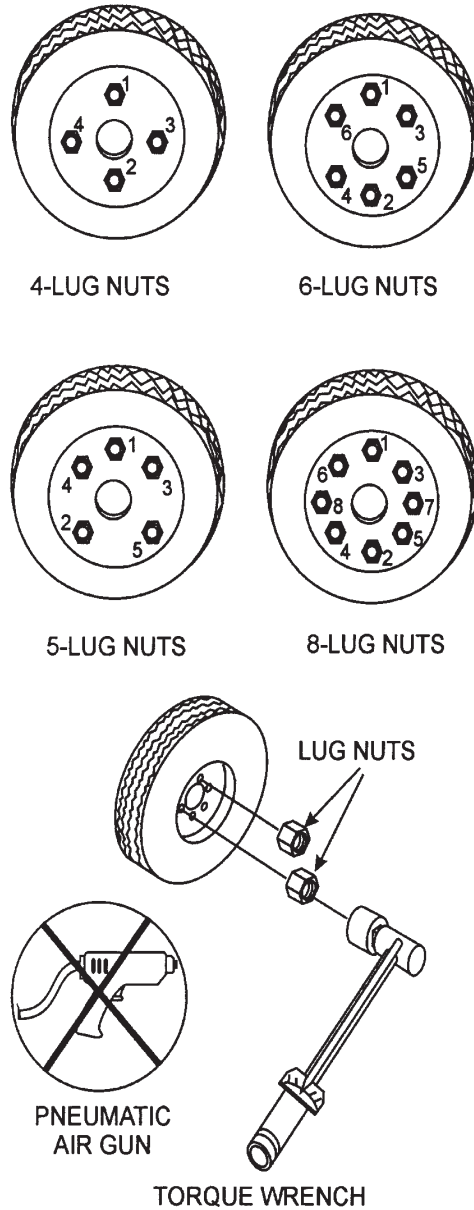

Figure 64. Wheel Lug Nuts Tightening Sequence
12. **Lug Nuts** — Used to secure the wheel to the wheel hub. Always use a torque wrench to tighten down the lug nuts. See Table 18 and Figure 64 for lug nut tightening and sequence.
2. Torque all lug nuts in sequence (see Figure 64). **DO NOT** torque the wheel lug nuts all the way down. Tighten each lug nut in 3 separate passes as defined by Table 18.